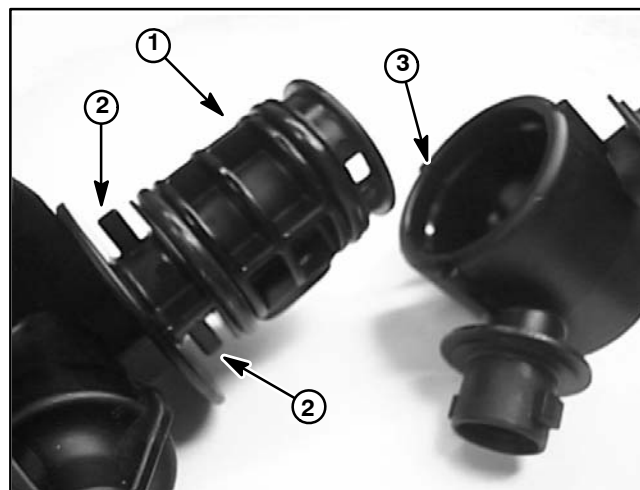

Figure 37
A. The turret (item 8) end with slightly larger bore and detent grooves needs to be orientated toward detent posts on body (item 4) (Fig. 37).
B. Make sure to align notch on plug (item 10) with groove in body (item 4) as plug is installed.
C. Install e-clip (item 5) into body to secure assembly.